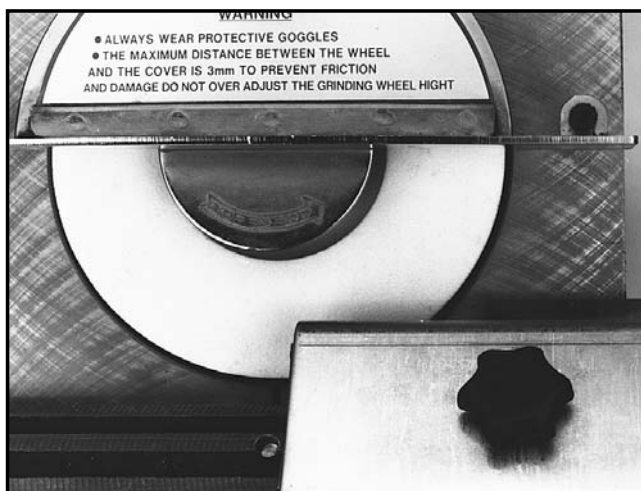

Figure 6. Placement of sliding support.
10. Once you are sure you've made proper bevel and alignment adjustments, lower the grinding wheel slightly and turn on the machine. Move the sliding support so the knife is at the right hand side of the wheel. See **Figure 6**.